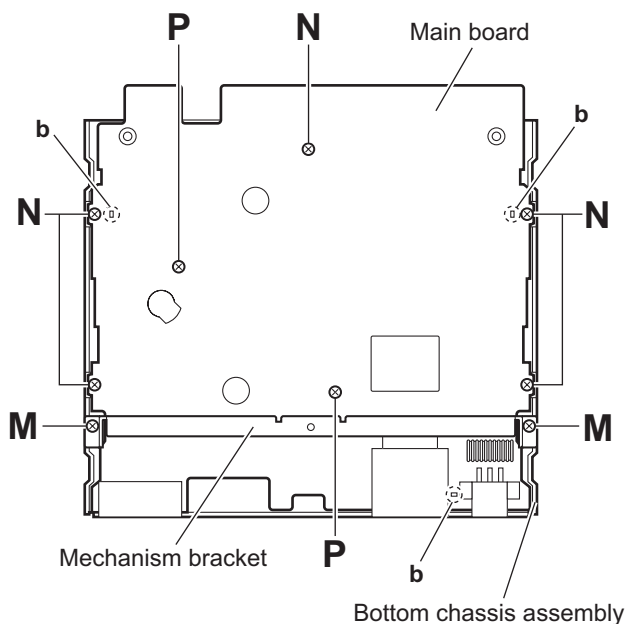

Fig.13
- (2) From the top side of the main body, remove the two screws **M** attaching the mechanism bracket on the bottom chassis assembly. (See Fig.13.)
- (3) Remove the five screws **N** and two screws **P** attaching the main board. (See Fig.13.)
- (4) Take out the main board from the bottom chassis assembly.
When attaching the main board on the bottom chassis assembly, align the projections **b** of the bottom chassis assembly in the hole of the main board. (See Fig.13.)